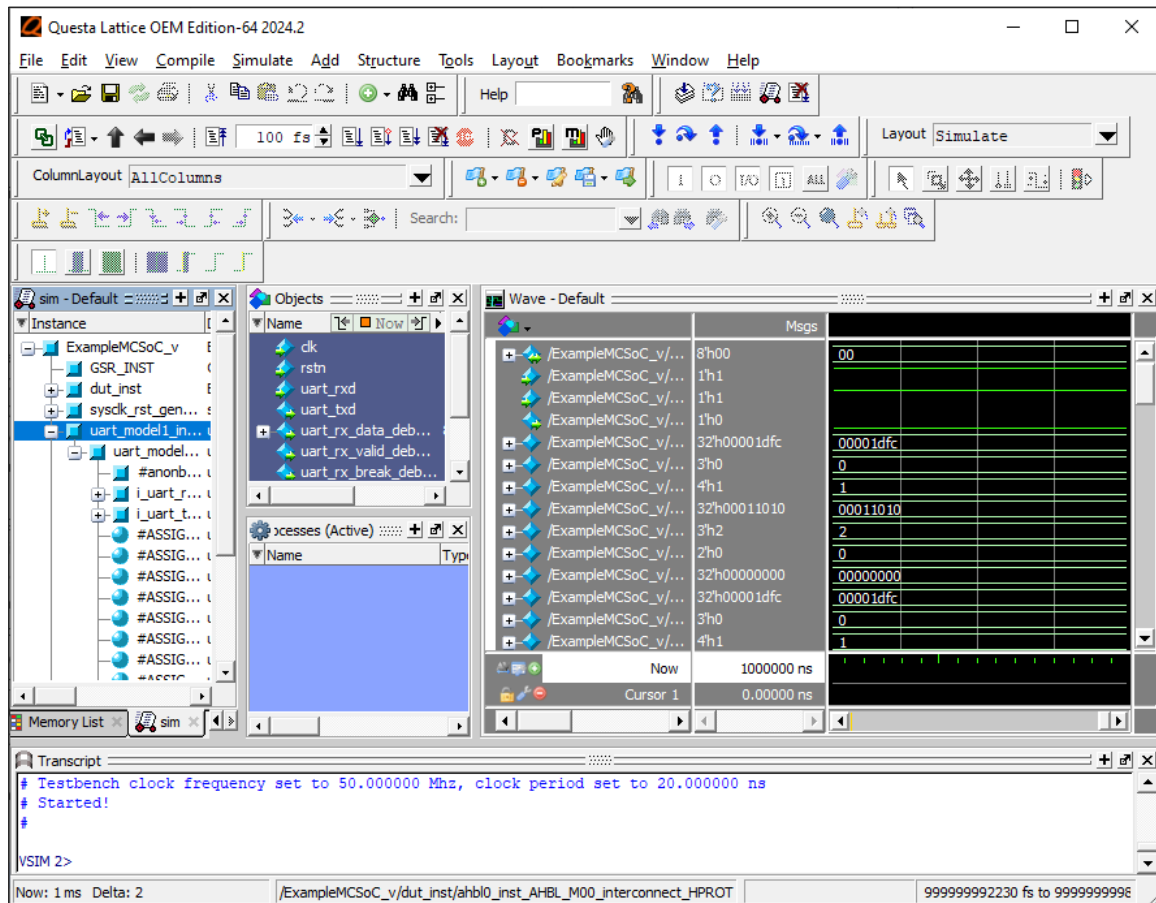

Figure 3.37. QuestaSim GUI
4. QuestaSim is launched and runs the simulation for the SoC verification project. The corresponding waveform of the SoC verification project for the Hello World project is shown (Figure 3.37). Check the waveform.